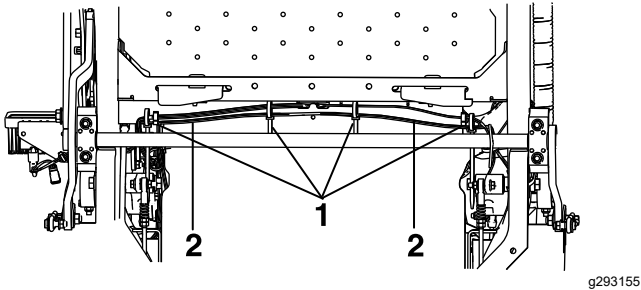

Figure 5
20. Use the remaining zip ties to secure the light harness to the mower. Make sure to secure the harness so that any moving parts do not rub the harness (reference Figure 5).